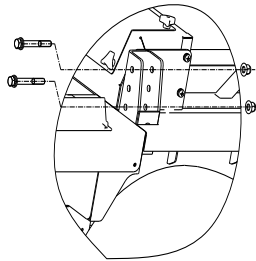

Fig. 2
3.2.1 Unscrew the mounting bolts, disc springs, lock bolts and lock nuts from the frame, as shown in Fig. 2